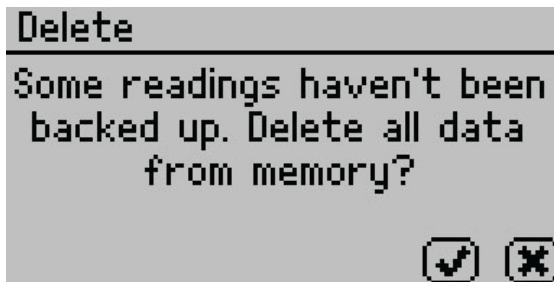

Figure 56 Delete option backup reminder dialog
- **Delete.** Select this option to delete **all** data currently stored in the instrument. Readings cannot be deleted individually. If the information has not been backed up with AquaLink 4, a reminder will appear (Figure 56).